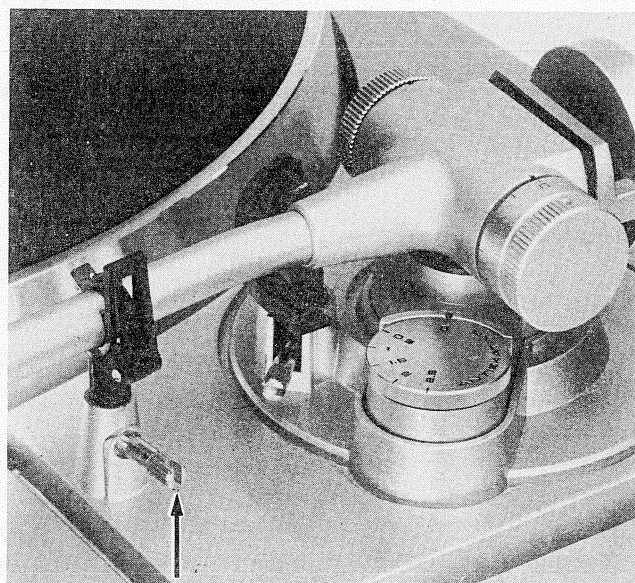

Fig. 31
5. TONE ARM REST HEIGHT ADJUSTMENT (Refer to Fig. 31)